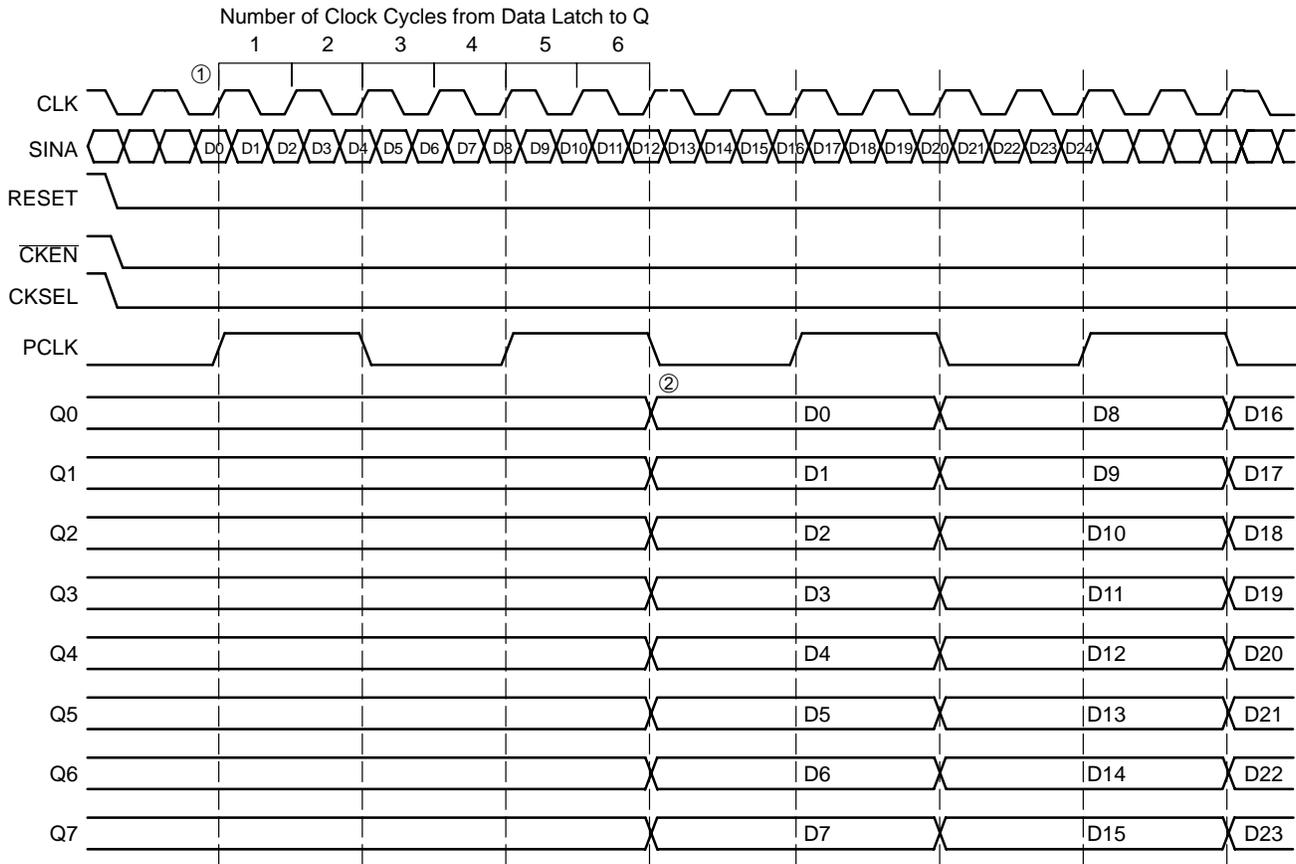

Figure 7. Timing Diagram A. 1:8 Serial to Parallel Conversion with CKSEL LOW
from when the serial data is latched① to when the data is seen on the parallel output② is 6 clock cycles (see Figure 7).